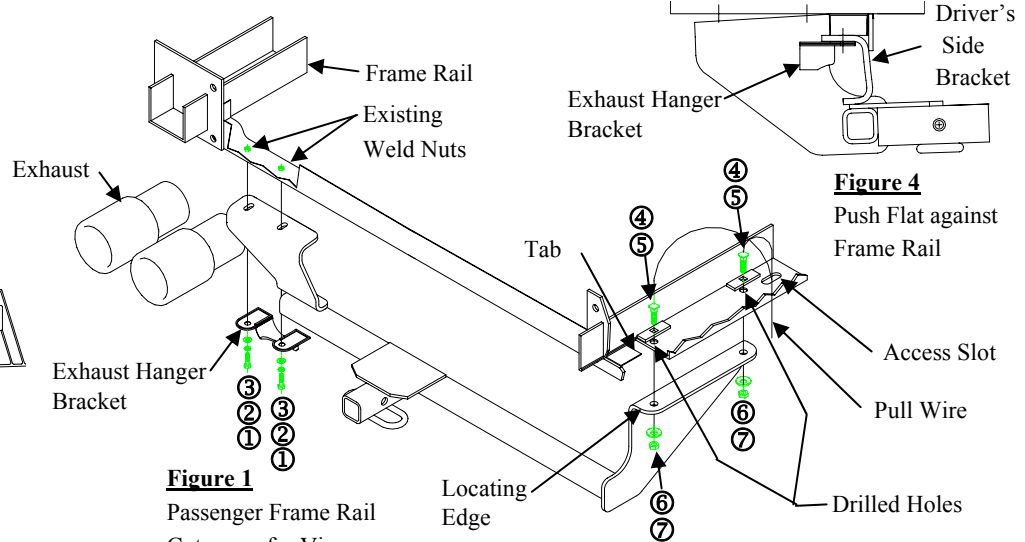

Figure 1
①	Qty. (2)	Bolt M8 X 1.25 X 30	⑤	Qty. (2)	Block ¼ X 1 X 3
②	Qty. (2)	Lock Washer 5/16"	⑥	Qty. (2)	Conical Washer 7/16
③	Qty. (2)	Flat Washer 5/16"	⑦	Qty. (2)	Nut 7/16-14
④	Qty. (2)	Bolt, Carriage 7/16-14 X 1.25
1. Remove plastic fascia covering the passenger side frame rail of the vehicle by removing the (5) Torx screws. Return plastic fascia covering and screws to vehicle owner.
2. Remove the (2) bolts from the exhaust hanger bracket as shown in **Figure 1** to lower the exhaust. Return bolts to owner.